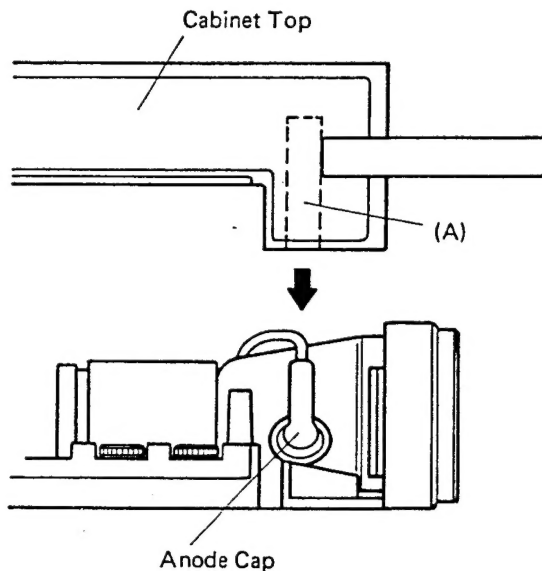

Figure 6
Place section (A) of the Cabinet Top on Anode Cap of the picture tube, when Cabinet Top assembling as illustrated in Figure 6.